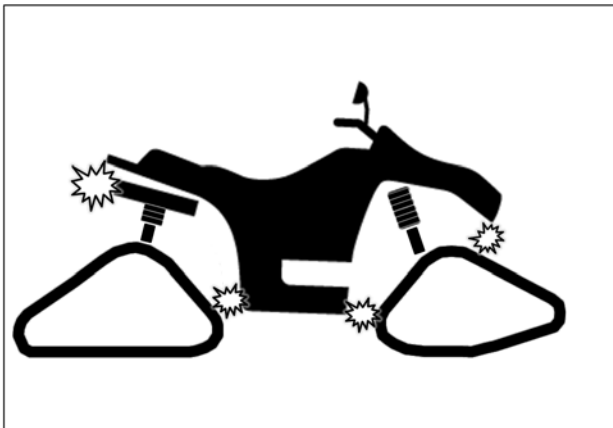

Fig. 28
2. Verify for possible contact between track systems and lower fender corners. See Fig. 28